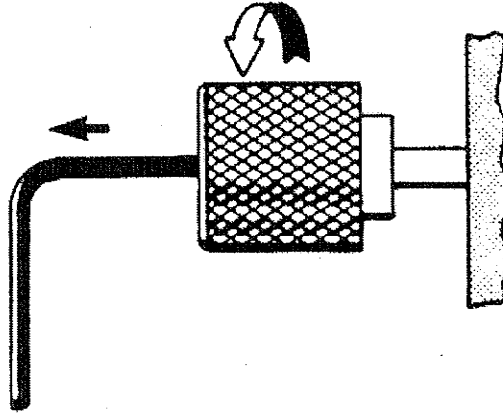

Figure 10 Remove Plug from Gas Injection Fitting
1. Loosen the fitting nut. Pull the plug from the fitting. See Figure 10.